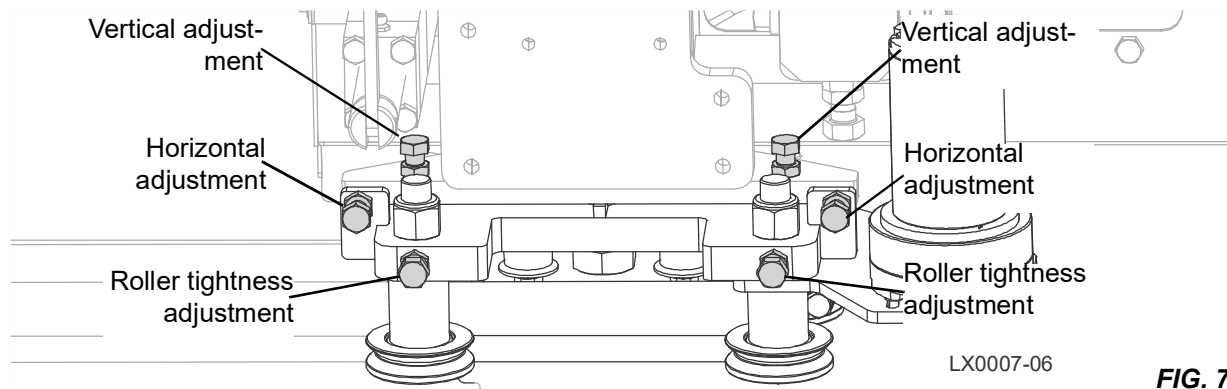

FIG. 7-3
3. If loose, tighten the adjustment bolts on the front of the blade guide mount by loosening the jam nut, tightening the adjustment nut, and retighten the jam nut. (See FIG. 7-3.)
- Loosen the horizontal adjustment bolt jam nuts. (See FIG. 7-3.)
13. Loosen the vertical adjustment bolt jam nuts. (See FIG. 7-3.)